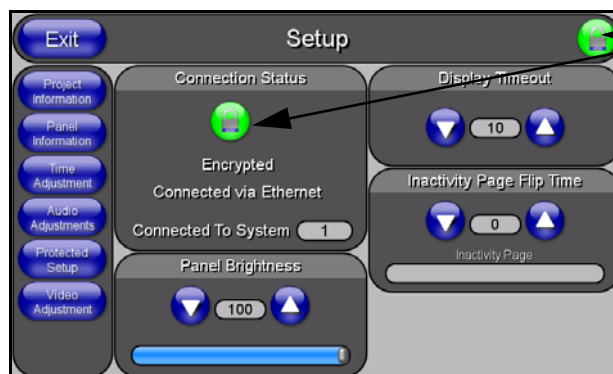

FIG. 30 Setup page
1. Press the grey Front Setup Access button for **3 seconds** to open the Setup page (FIG. 30).